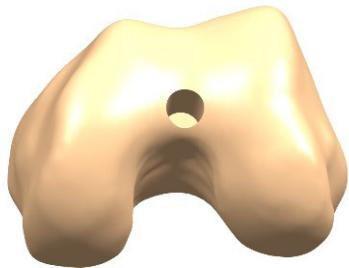

Figure 61
1. Open the femoral canal with the 9.5mm Intramedullary Drill. The drill has a 12mm step to open the entry point further (**Figure 61**).